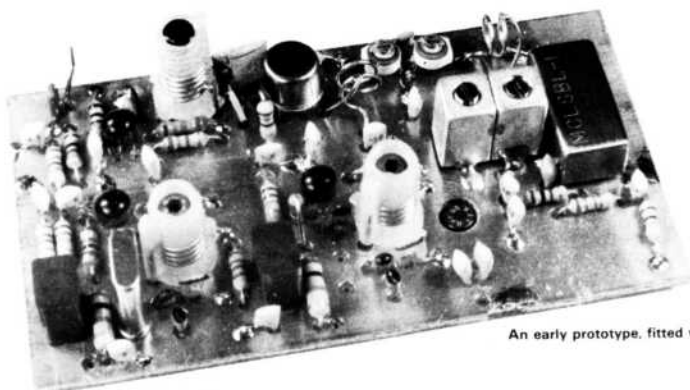

Figure 4: Mounting details for C15 and C16.
6. Fit C15 and C16 as shown in Fig.4. This will keep the tuning screw at ground potential, making adjustment much easier.